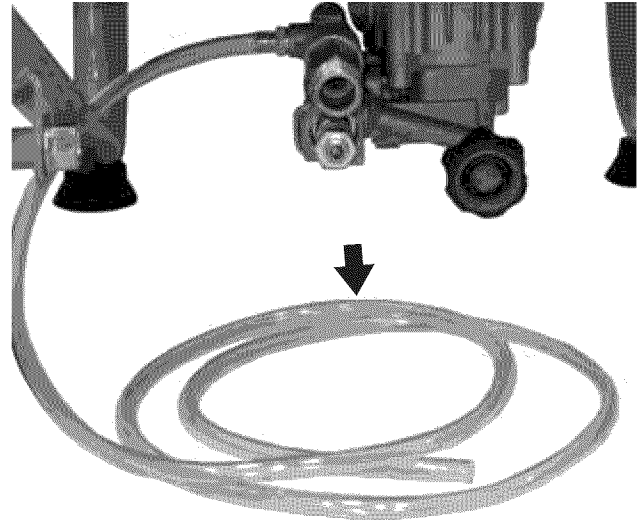

Figure 37 – Soap Siphon Hose
1. Remove the soap siphon hose (see Figure 37) from the soap container (if it is immersed).